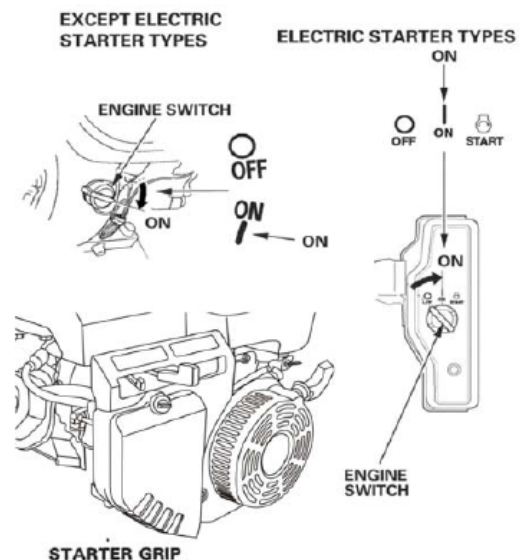

Figure4
4. Start the engine as follows: (see figure4)